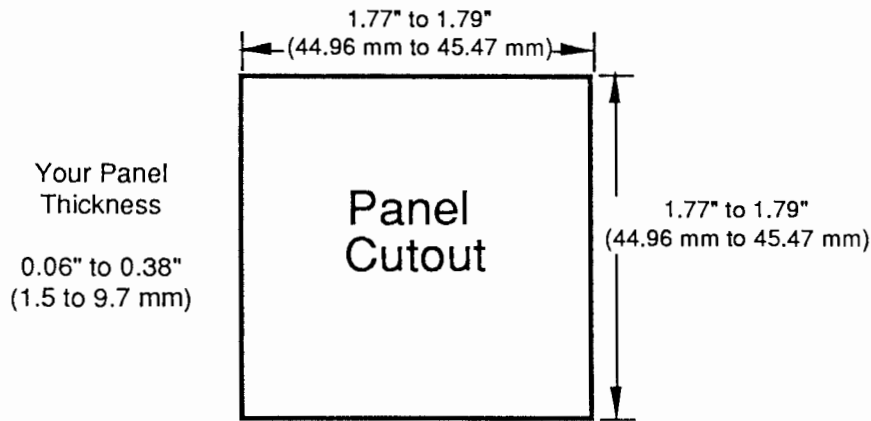

Figure 4 -
1. Make a panel cutout per the dimensions in Figure 4.